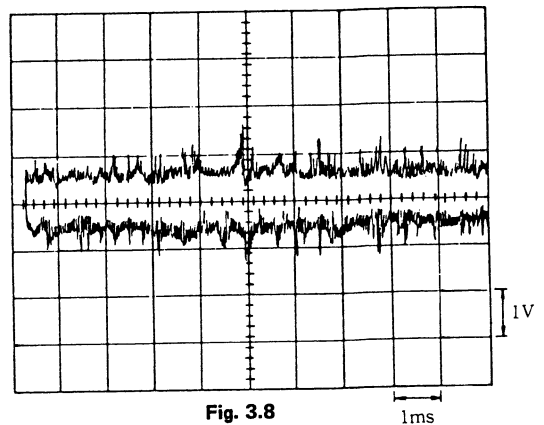

Fig. 3.8
- (1) Load the Philips Test Sample 5 test disc (non-scratched), observe the noise voltage on the voltmeter, and adjust VR103 so that the noise voltage on TP103 (Tracking) and TP102 (GND) is $0.26V$ RMS $\pm 0.01V$ (Fig. 3.8).